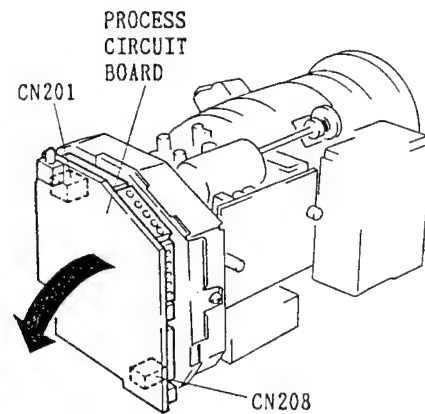

Fig. 2-25
3. While disconnecting two (2) connectors (CN201, CN208) from the sensor circuit board, open the process circuit board in the direction of the arrow. (See Fig. 2-25)